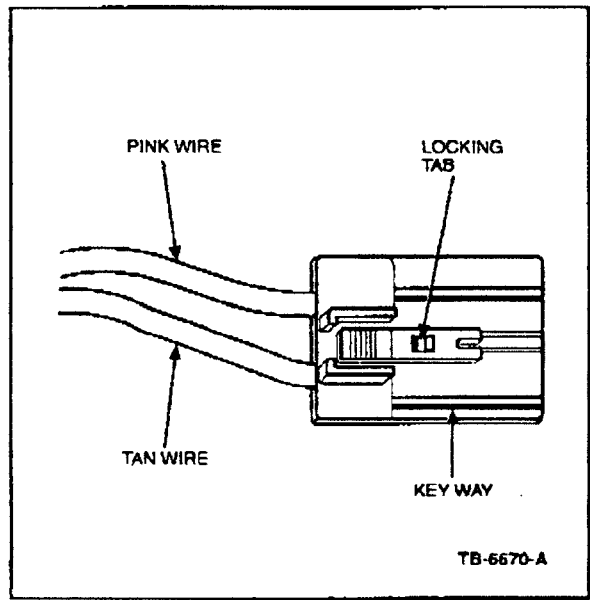

Figure 1 - Article 02-15-1
Locate connector C2232d under the passenger side instrument panel. This connector supplies power to the optional police front power distribution box. Compare the wire locations to those shown in Figure 1. If the wires are in the incorrect pin locations, refer to the following Service Procedure for details.
6. Switch locations of the terminals to match Figure 1.